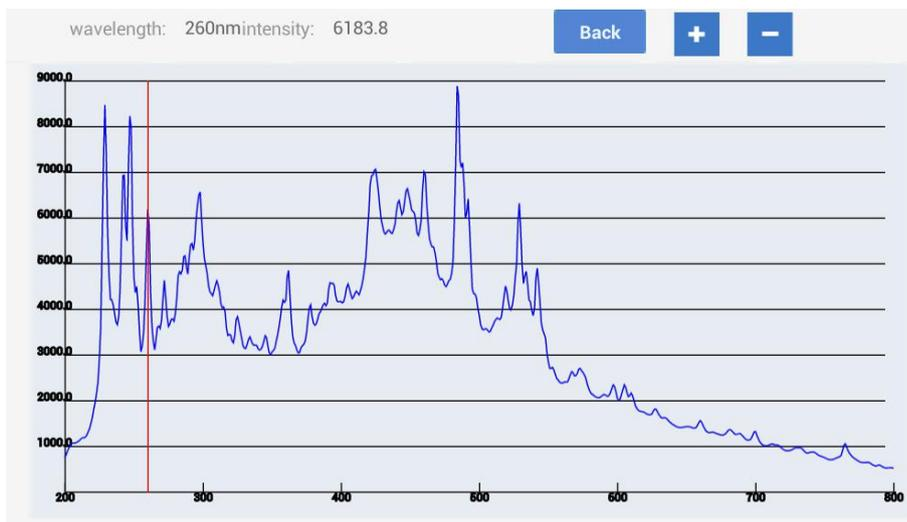

Fig 4.21 Blank light intensity
①Click **Blank** to make blank and then **Blank data** is available, click it to enter the interface Fig 4.21. It shows the 200-800 wavelength light intensity of blank sample, move the red line to view the light intensity of different wavelength. Click **+** or **-** is also can change the wavelength while the red line don't move.